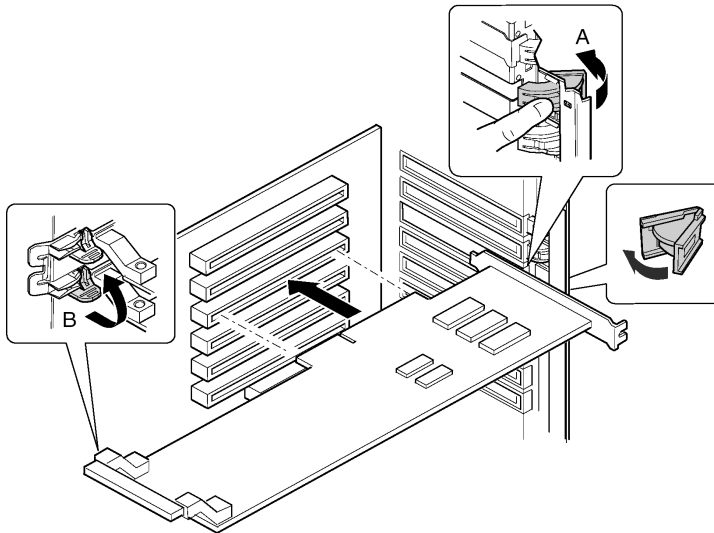

Figure 34 - Installing a hot-plug PCI add-in board
- 3 Open the latches on the front and rear retention mechanisms (Figure 34, A and B).